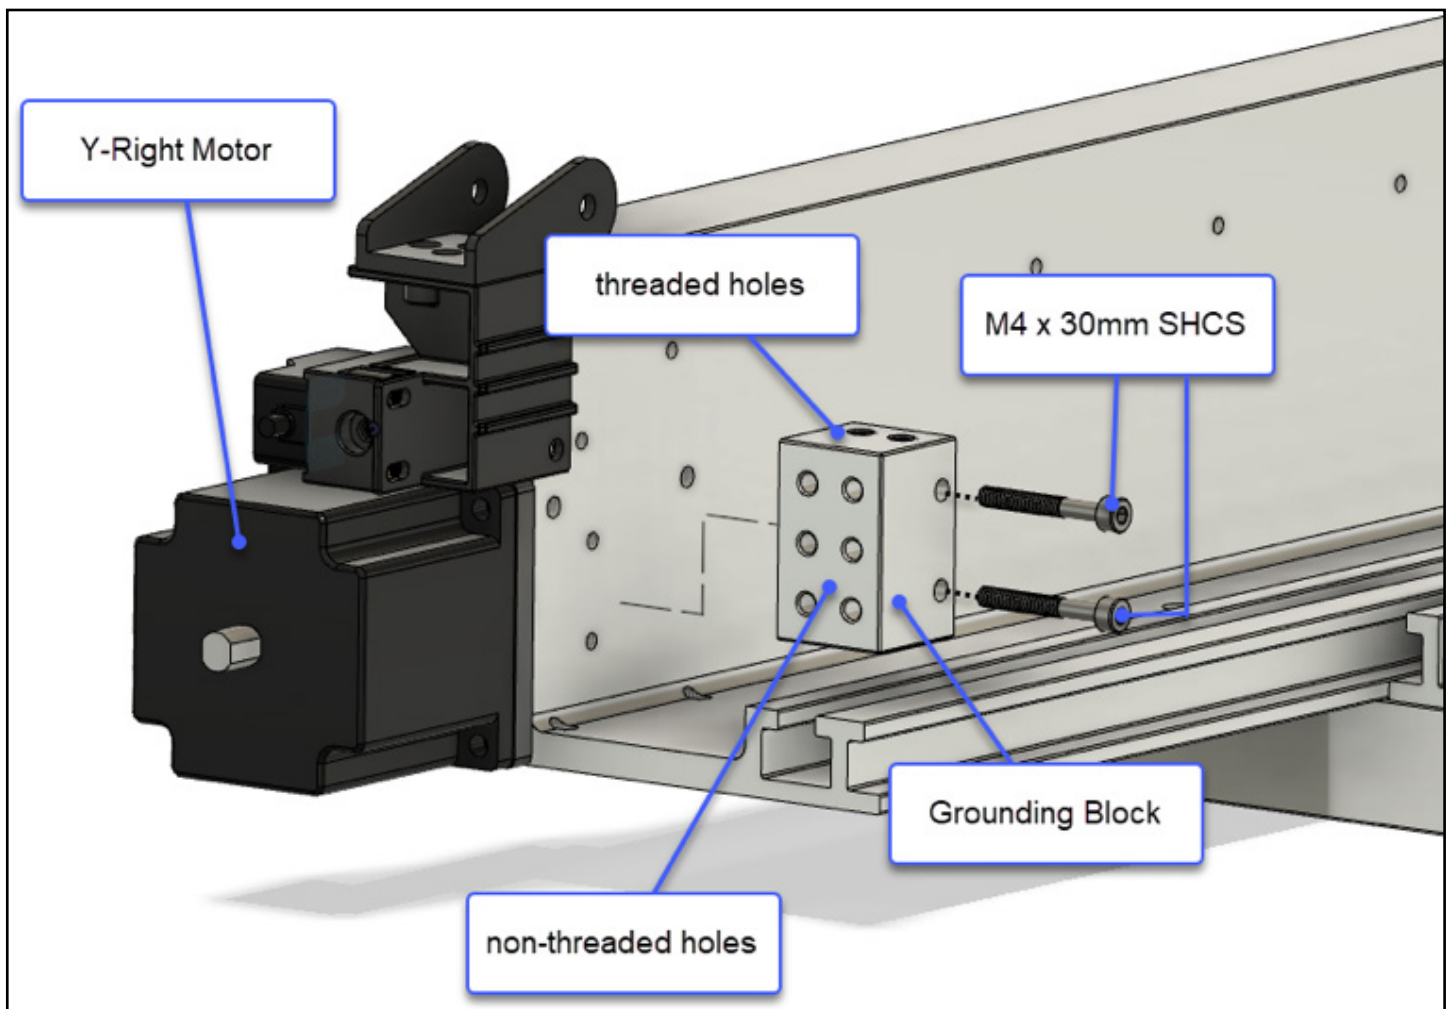

Figure 4-15
2. Position the grounding block on the inside of the Y-Right assembly, at the rear. See **Fig. 4-15**.
3. Use a 3mm hex key and two (2) M4×30mm BHCS to attach the grounding block to the inside of the Y-Right assembly. See **Fig. 4-15**.